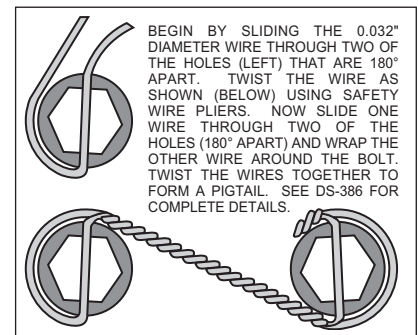

Figure 2. Safety Wire Diagram
- Identify the left and right caliper mounting brackets (1). Both brackets will be offset to the rear of the vehicle with the threaded inserts and the beveled bolt holes facing the outside of the vehicle. Apply red *Loctite*® 271 to bolt threads (2 and 5) before assembly of the caliper bracket (1) to backing plate face of spindle. Insert the two upper mounting bolts (2) and the lower mounting bolt (5) through the caliper mounting bracket (1). Place one upper mounting bracket spacer (3) over each of the upper mounting bolts (2). Slide a lower mounting bracket spacer (6) over the lower mounting bolt (5). Position the caliper mounting bracket (1) onto the spindle, slipping each of the three mounting bolts (2 and 5) through the spindle holes. The lower ball joint may have moved when the original bolts were removed. Re-alignment may be necessary for the lower bolt (5) to slide through. Install two jam nuts (4) on the upper mounting bolts (2) and finger tighten. Install one lock nut (7) on the lower mounting bolt (5) and finger tighten. Torque two bolts (2) to 47 ft-lb. Torque bolt (5) to 65 ft-lb. **NOTE:** Be sure the heads of the caliper bracket (1) insert nuts are facing outward toward the wheel.
- Install five new wheel studs (8) into the hub (9). Torque to 77 ft-lb. **NOTE:** There are two five lug patterns in the hub (5 x 4.00 and 5 x 4.50). Make sure of the correct hole pattern for the correct wheel application before installing studs into hub.
- Pack the large inner bearing cone (10) with high temperature disc brake bearing grease (available from your local auto parts store) and install into the backside of the hub (9). Install the grease seal (11) by pressing into the backside of the hub (9).
- Attach rotor adapter (12) to rotor (13) using six bolts (14). Torque bolts (14) to 180 in-lb. Safety wire bolts (14) using standard 0.032 inch diameter stainless steel safety wire as shown in Figure 2. Please refer to Wilwood's data sheet DS-386 (available at www.wilwood.org/ds386.pdf) for complete safety wire installation instructions. **NOTE:** The flat side of the rotor (13) lugs face toward the rotor adapter (12) with the dished side of the rotor adapter (12) facing away from the rotor (13).
- Mount the adapter/rotor assembly (12 and 13) to the hub (9) using five flat washers (15) and five bolts (16). Torque bolts (16) to 22 ft-lb. Safety wire bolts (16).
- Pack the small outer bearing cone (17) with high temperature disc brake bearing grease. Lightly coat the spindle bearing surfaces with bearing grease. Slide the hub/rotor assembly (9 and 13) with outer bearing cone (17) onto the spindle. Secure using existing spindle washer, existing adjusting nut and nut locking device.